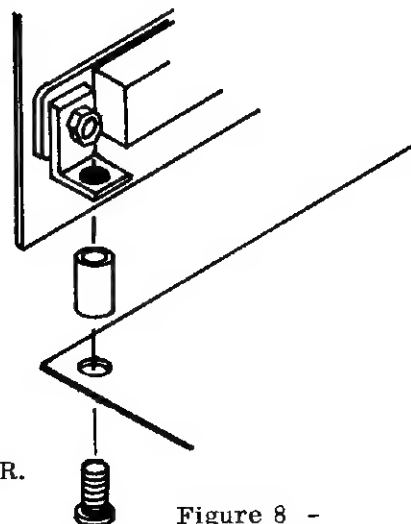

Figure 8 -
- () Using two 4-40 X 1/2 inch machine screws and two 1/4 inch spacers fasten the circuit board to the threaded holes in the "L" brackets previously attached to the front panel as shown in detail drawing figure 8.